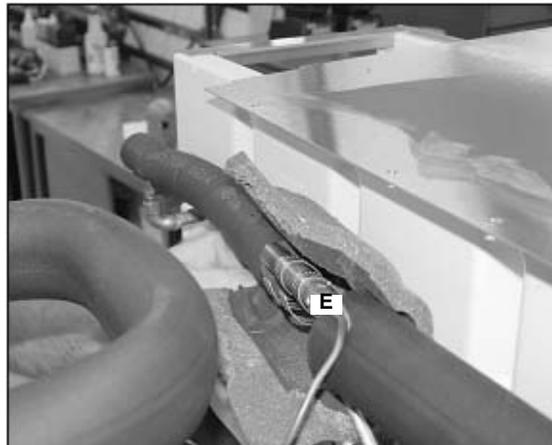

Figure 39.
42. Once the system has passed a leak test, cover the expansion valve bulb (E) with the insulation kit (Figure 39). Cap the receiver service port.